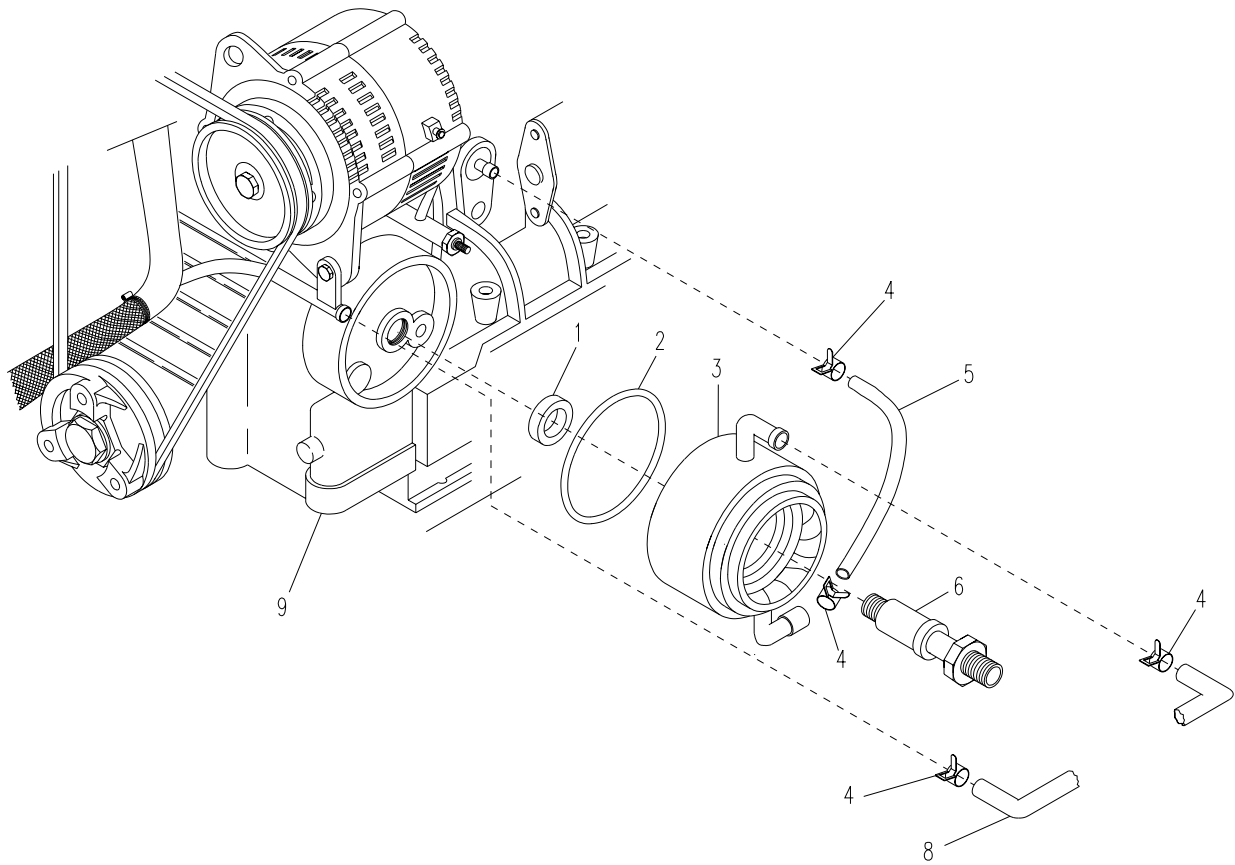

Figure 4-3. Oil Cooler
- a. Inspect water hoses (5, Figure 4-3) and (8) for loosening or deterioration. If loosening or deterioration is present, replace water hoses.
- b. Inspect for leakage from packing (2) behind oil cooler (3). Replace if leakage is present.